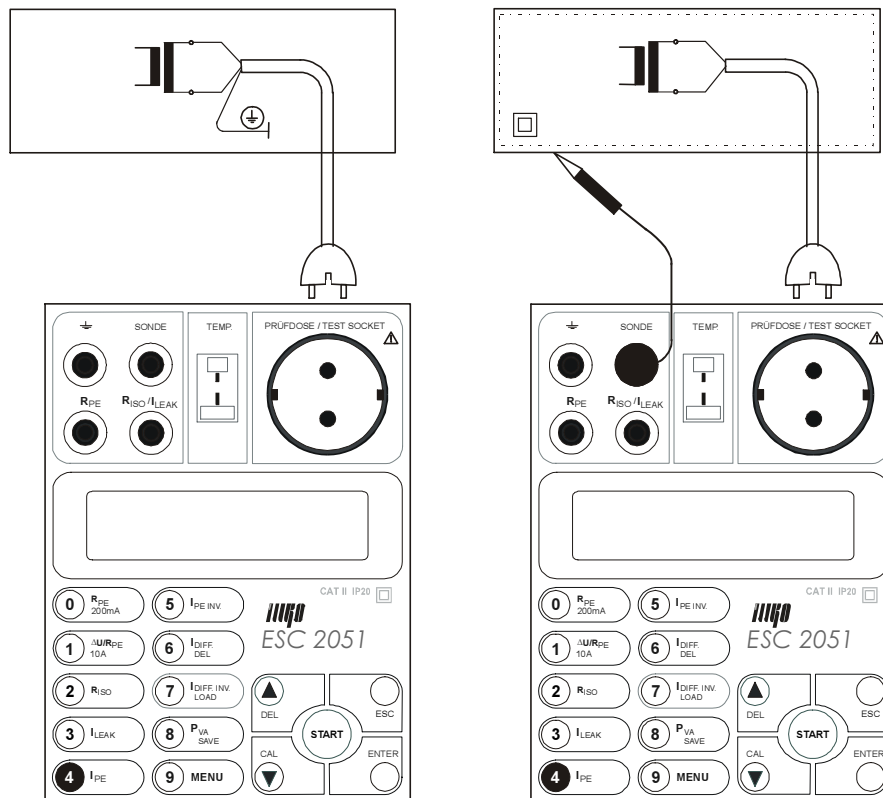

Fig. 10
- Plug in the mains cable of equipment under test to Test socket 1 (Fig. 10).
- Plug in the mains cable of equipment under test to Test socket **1** (Fig. 10).